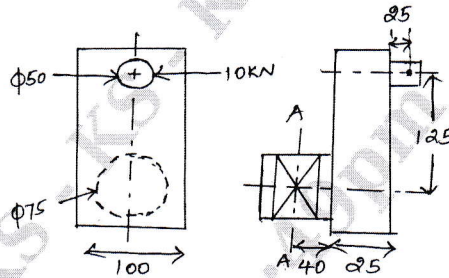

Fig.Q1(c)
- c. Determine maximum normal stress and maximum shear stress at section A – A for crank pin as shown in Fig.Q1(c) when a load of 10 kN is assumed to be concentrated at centre of crank pin.